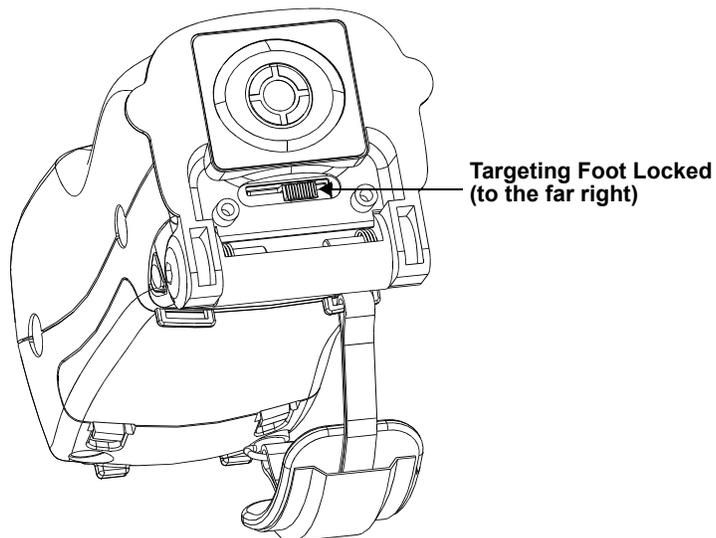

Figure 1-11. Locked Targeting Foot
3. Lock the foot into place as shown in Figure 1-11.